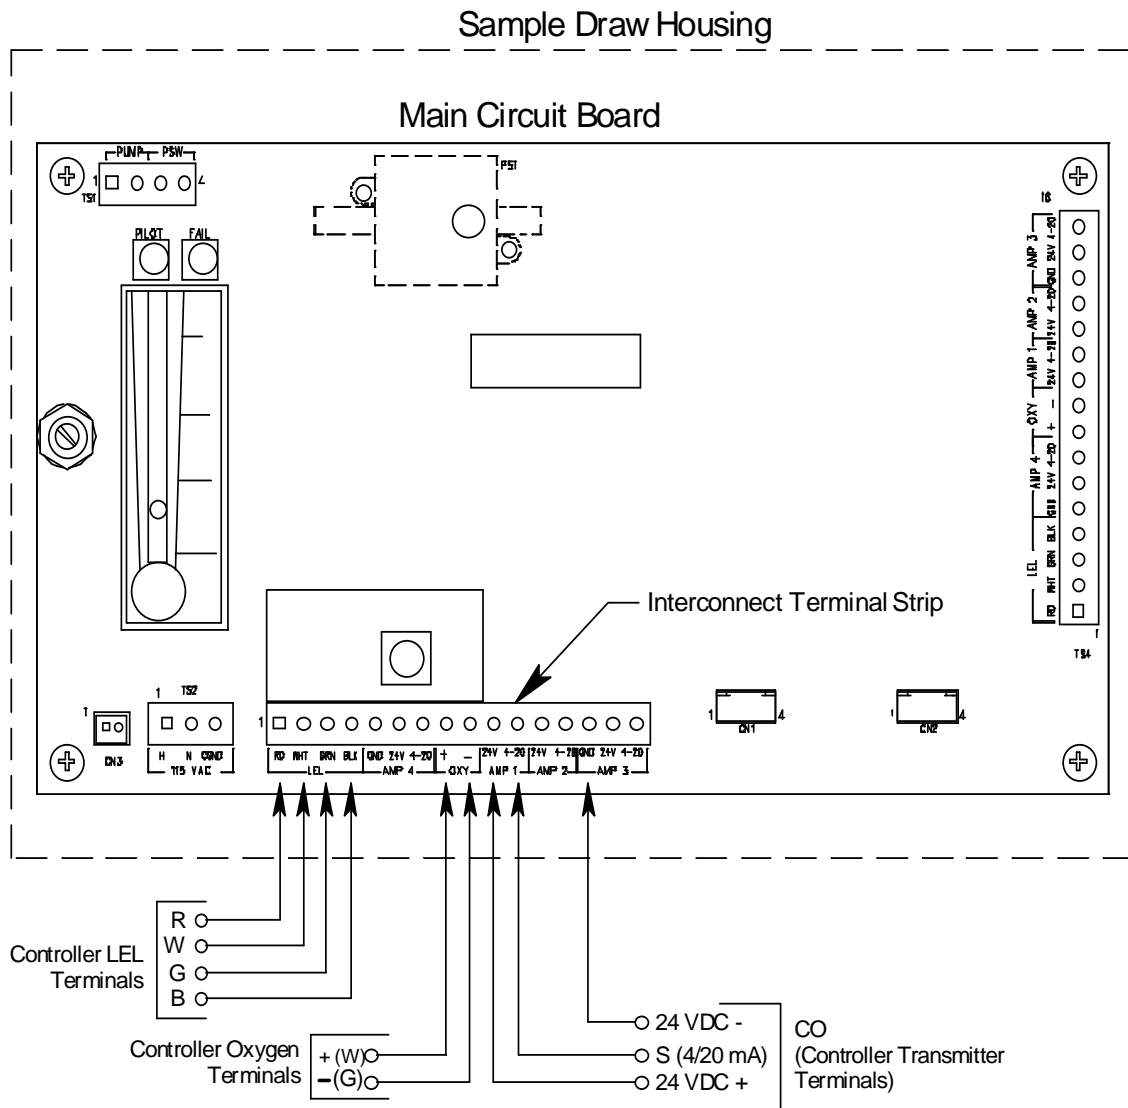

Figure 5: External (field) Wiring, Sample Draw Detector
3. Connect the cable to the sample draw detector's interconnect terminal strip as shown in Figure 5.
6. Connect the cable or wires at the controller to the appropriate channels' detector/transmitter terminal strip as shown in Figure 5. Refer to the controller operator's manual for the controller's detector/transmitter's terminal designations. The LEL and oxygen detector channels are direct connect type and the CO channel is 4 - 20 mA transmitter.